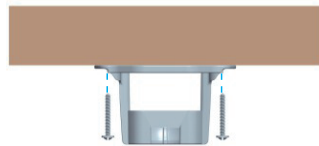

Fig 4.2
**Note:** The wooden ceiling beam must meet the tensile test of 30KG for installation, as shown in Fig 4.2. It is also possible to install the mounting bracket directly to the concrete ceiling and install four screws (not included) to the left and right corresponding holes of the bracket to lock the ceiling.